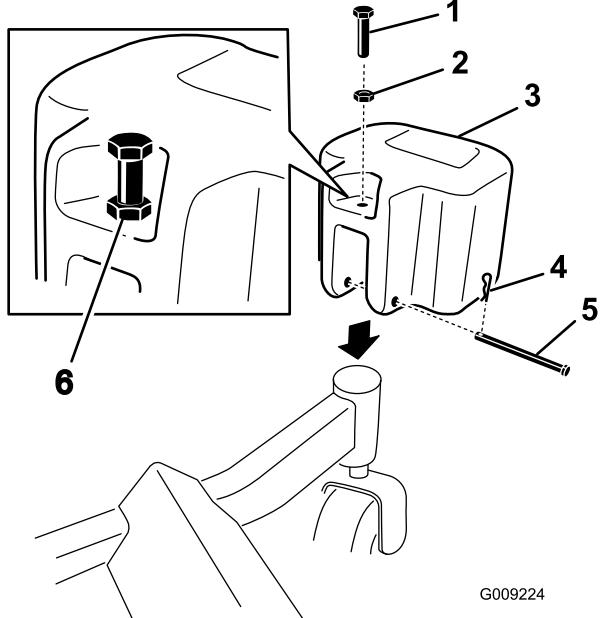

Figure 31
1. Install caster weights on the front casters with a clevis pin and hairpin cotter (Figure 31).
2. Install the nut (3/8 inch) onto each tap bolt (3/8 x 1-3/4 inches) and install the tap bolts into each weight (Figure 31).